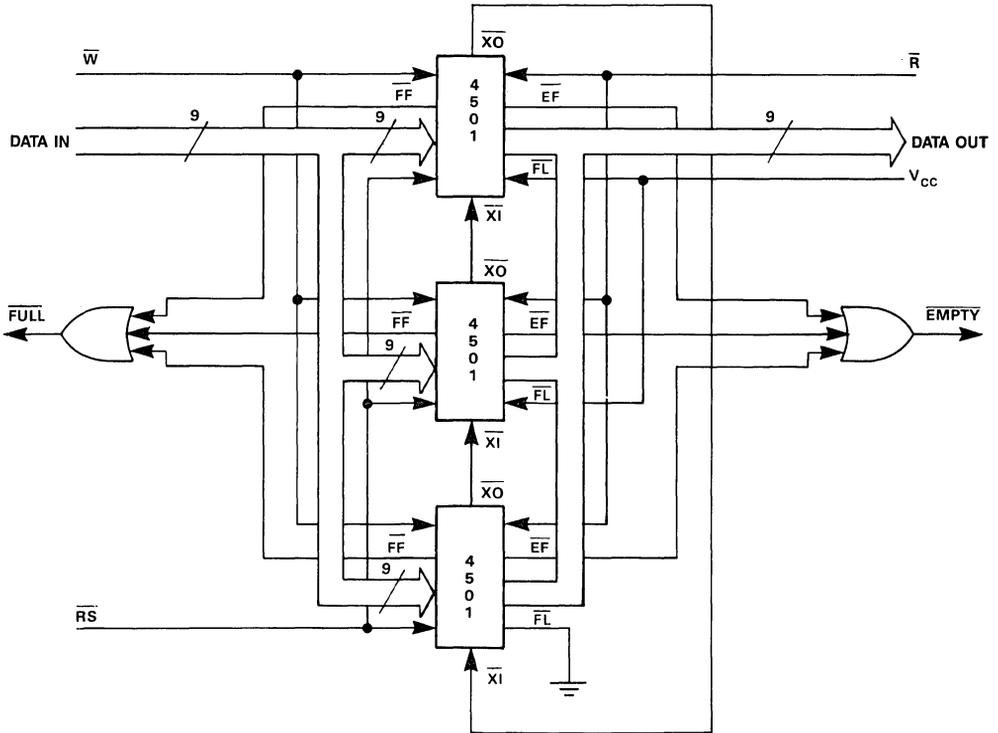

Figure 9. A 1536 x 9 FIFO Configuration (Depth Expansion)
The MK4501 can easily be adapted to applications when the requirements are for greater than 512 words. Figure 9 demonstrates Depth Expansion using three MK4501s. Any depth can be attained by adding additional MK4501s.
1. For depth expansion block see DEPTH EXPANSION Section and Figure 9.